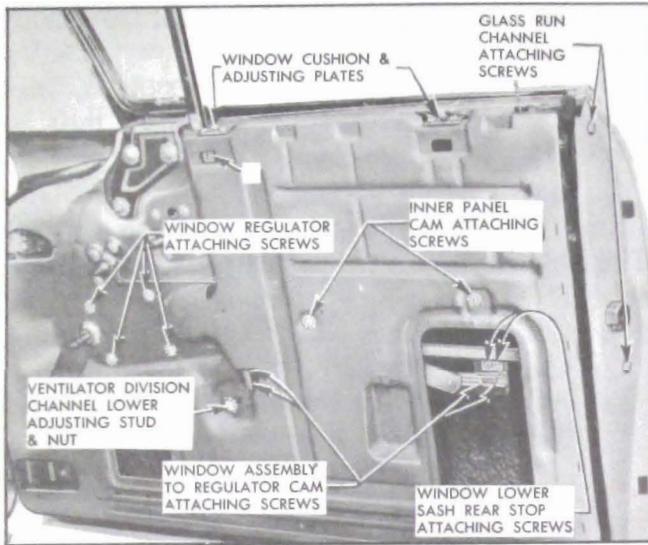

Figure 13-212—Front Door Window and Window Regulator
panel with three screws. On all Series 50-70-700, loosen window cushion adjusting plates and position plates inboard. See figure 13-212.
3. Remove window lower sash channel front stop attaching screws through access hole "A". See Figure 13-212.
4. Lower window; remove lower sash channel rear stop and four screws securing window assembly to regulator cam. See Figure 13-212.
To adjust the door window glass for proper contact with the side roof rail weatherstrip and with the rear door window frame weatherstrip as shown in Figure 13-212; or to relieve a binding door glass caused by misalignment of the glass with the glass run channels, proceed as follows:
1. To correct a condition where the glass is "cocked" in the glass run channels, loosen the inner panel cam rear attaching screw. See figure 13-212. Adjust rear of cam up or down as required to retighten screw.
3. To adjust the lower portion of the ventilator division channel for alignment with the window, loosen ventilator division channel adjusting stud nut. See figure 13-212. Turn adjusting stud in or out or position lower end of channel fore or aft, as required; then, retighten adjusting stud nut.
5. To adjust limit of "up" travel of the window for proper contact with the side roof rail weatherstrip, adjust window cushion and adjusting plates. See figure 13-212.
2. Remove glass run channel attaching screws. See figure 13-212.
3. Remove window assembly to regulator cam attaching screws. See figure 13-212. Raise window and prop in up position.